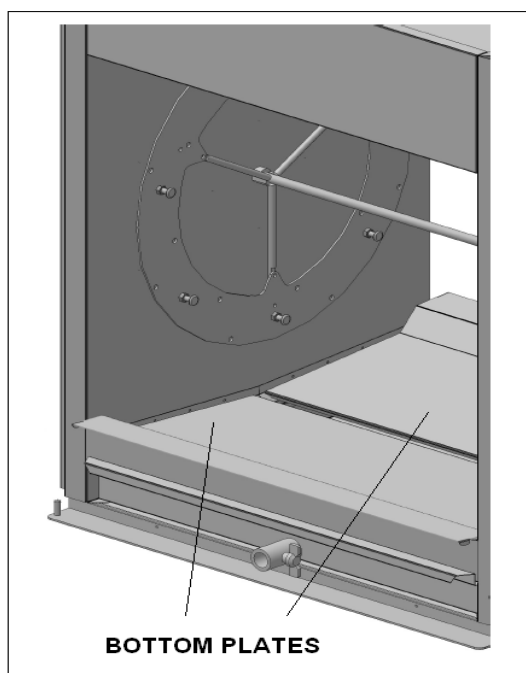

Figure 8
- Place the bottom plates in the grilling compartment (see Figure 8).